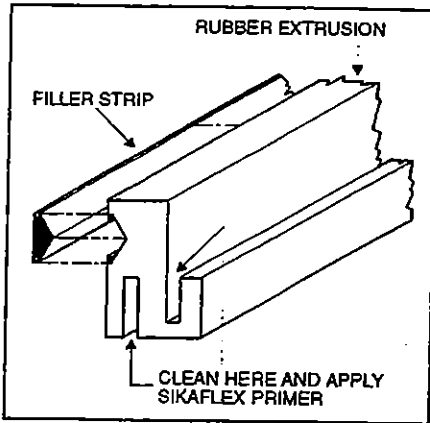

Figure 43
3. Apply Sikaflex primer 449/203 (Prévost part no 68-1091) with a paint brush or applicator in the channels around the rubber extrusion, and let dry 20 to 25 minutes while proceeding with the next steps. See figure 43.